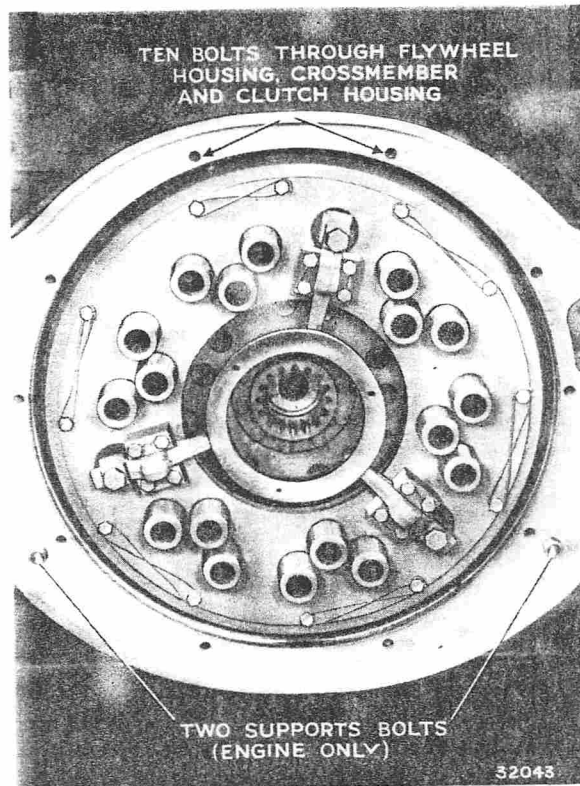

FIG. 64. ENGINE REAR MOUNTING
16. Support the gearbox and remove the ten bolts securing the engine and gearbox through the banjo-crossmember (Fig. 64).
19. Take the weight of the engine with a suitable crane before removing the two bolts securing the engine to the banjo crossmember (Fig. 64).